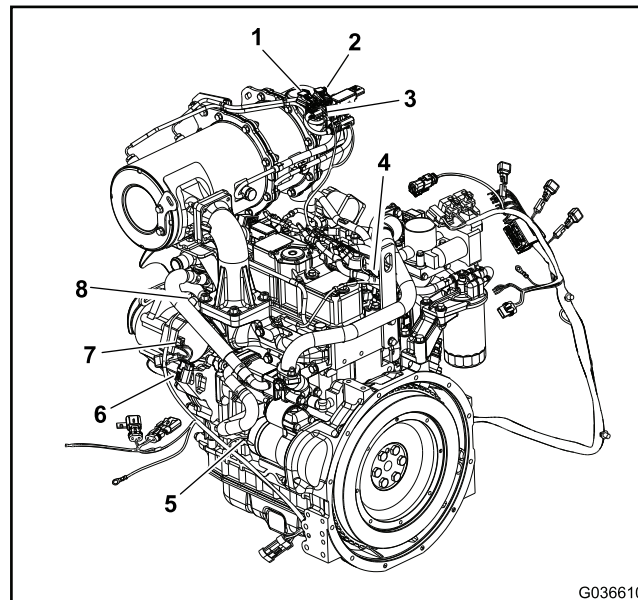

Figure 16
- Disconnect the wire harness from the starter "S" terminal (item 5 in Figure 16).
- Disconnect the wire harness from the alternator (items 6,7, and 8 in Figure 16).
- Disconnect the wire harness from the DPF pressure sensor (item 3 in Figure 16) and temperature sensors (items 1 and 2 in Figure 16).
- Disconnect the wire harness from the glow plug bus (item 4 in Figure 16).
- Connect the wire harness to the alternator (items 6,7, and 8 in Figure 16).
- Connect the wire harness to the DPF pressure sensor (item 3 in Figure 16) and temperature sensors (items 1 and 2 in Figure 16).